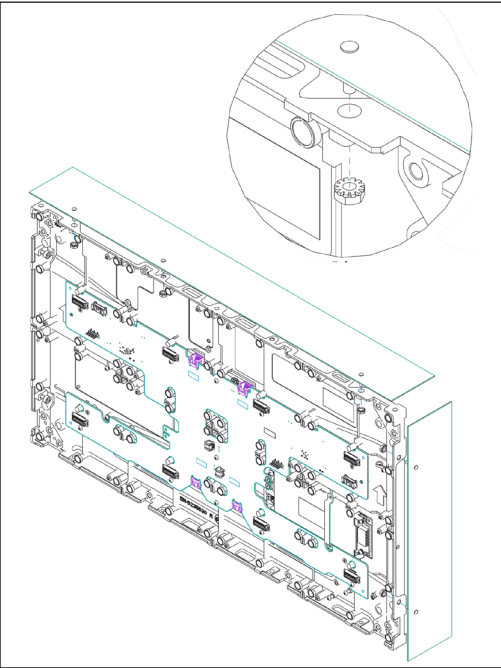
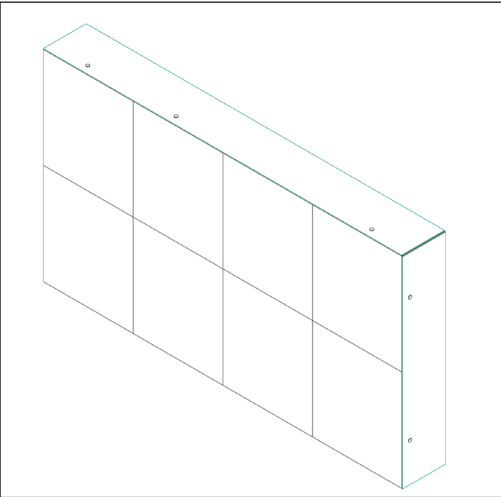
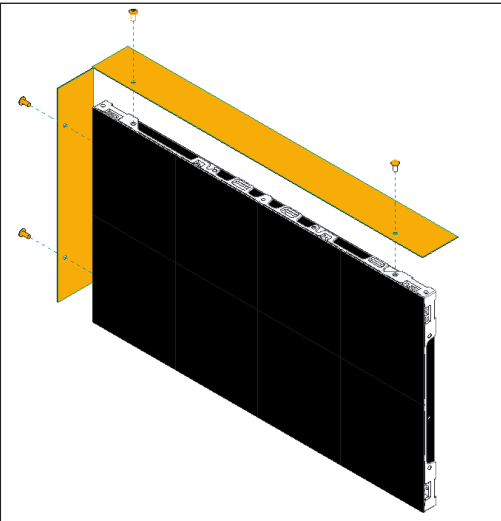
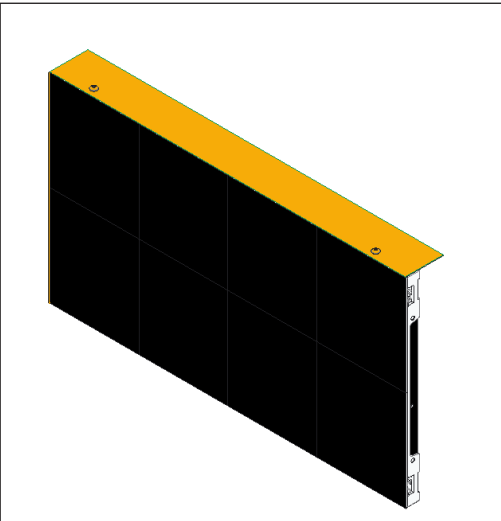

Figure 3: Position Clean Look Border
Figure 4: Attached Flat Border
Figure 5: Position Flat Border
Figure 6: Attached Flat Border
- 5. Bring the border into position. The holes should be oriented toward the front of the display to align with the threaded holes in the panels. Refer to **Figure 3** and **Figure 5**.
- 6a. Use a  $\frac{5}{16}$ " socket to attach the #6 nuts (HC-1238) to the studs on the borders, fastening the border to the panel perimeter on all available studs on the border. Refer to **Figure 3** and **Figure 4**.
- 6b. Use a 3 mm hex key (TH-5406561) or 3 mm hex bit (TH-5406562) to attach the M5-0.8 x 12 mm machine screws (HC-5402741), fastening the border to the panel perimeter in all pre-punched hole locations on the border. Each panel has threaded holes for borders on all four sides. Refer to **Figure 5** and **Figure 6**.